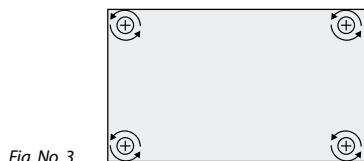
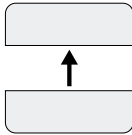

Fig. No. 3
Fig. No. 4
1. Unscrew EW1B enclosure (see Fig. No. 3)
2. Detach the front side of the enclosure by pulling the front side up (see Fig. No. 4)
6. Close EW1B enclosure (see Fig. No. 4, Fig. No. 3)